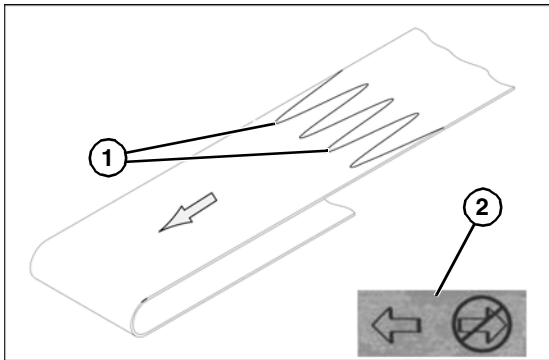

Figure 47
2. Orient belt so splice leading fingers (Figure 47, item 1) point in the direction of belt travel as identified by the conveyor directional label (Figure 47, item 2).